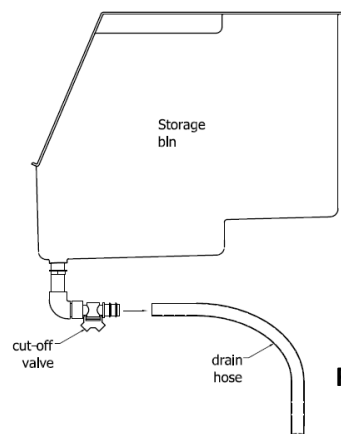

Fig. 15
3. Shut off the drain cut-off valve and remove the drain tube from the ice bin (Fig. 15)